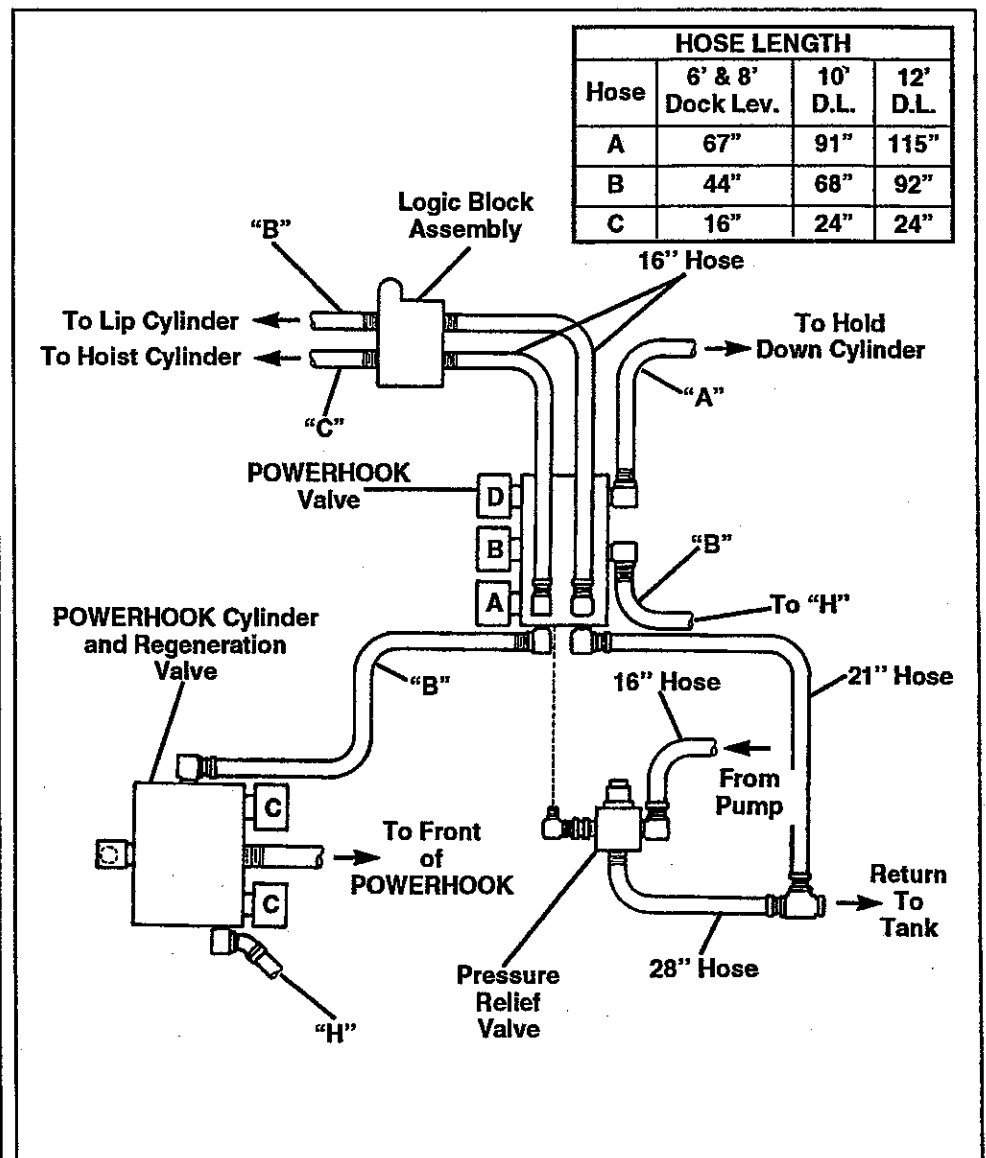

Fig. 15. Hydraulic Components
23. Connect the hoses as indicated on the Hydraulic Component drawing, Figure 15.